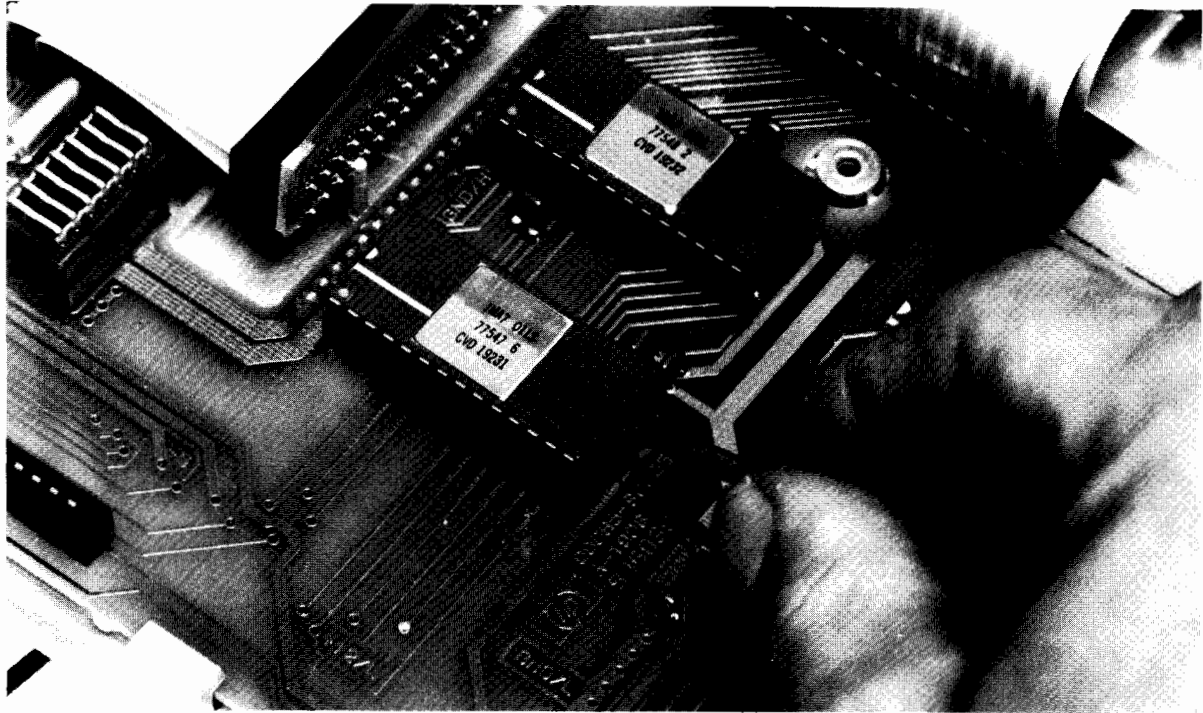

Figure 2-3. Removing IC From Socket
- a. Insert a small, flat-blade screwdriver between one end of the IC and the socket. (See figure 2-3.)